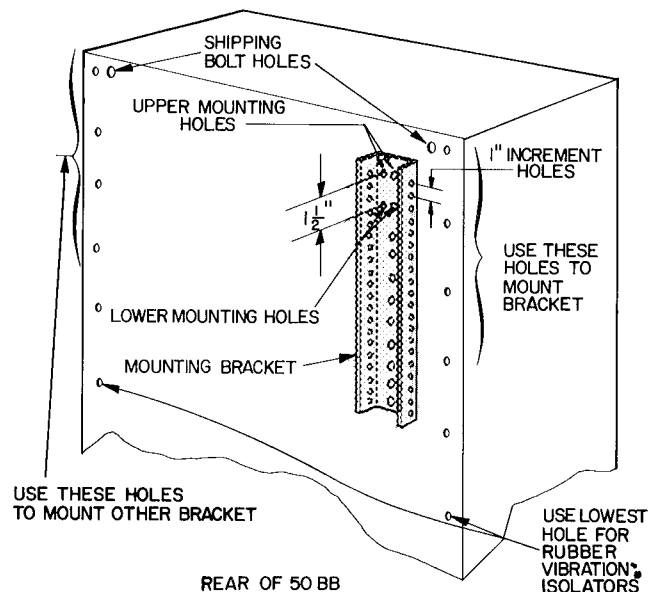

Fig. 4 - Installation of Mounting Brackets
**Mounting Brackets** - Two mounting brackets are supplied for mounting the 09BB unit to the 50BB unit (Fig. 4). These brackets have been designed to provide adjustable heights for the 09BB to the nearest 1/2 in. This is done by providing two sets of mounting holes on the bracket, spaced 1-1/2 in. apart. The upper mounting holes allow 09BB unit height adjustment in 1-in. increments starting 1 ft 10-1/2 in. from the floor. The lower mounting holes allow height adjustment in 1-in. increments starting 2 ft from the floor.
2. Select mounting holes and place bracket in position. Install with retaining screws and channel bolts in shipping holes (Fig. 4).
4. Install vibration isolators (supplied) in lowest hole each side of 50BB back panel (Fig. 4). Remove Tinnerman nut and install each vibration isolator with 5/16 in. plain washer (supplied in fastener package).